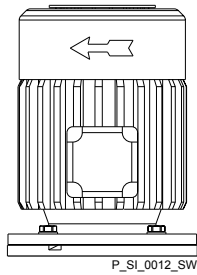

Fig. 20: Direction of rotation of motor
- When connecting the motor, pay attention to the correct direction of rotation indicated by the arrow on the fan cover, as shown in Fig. 20.